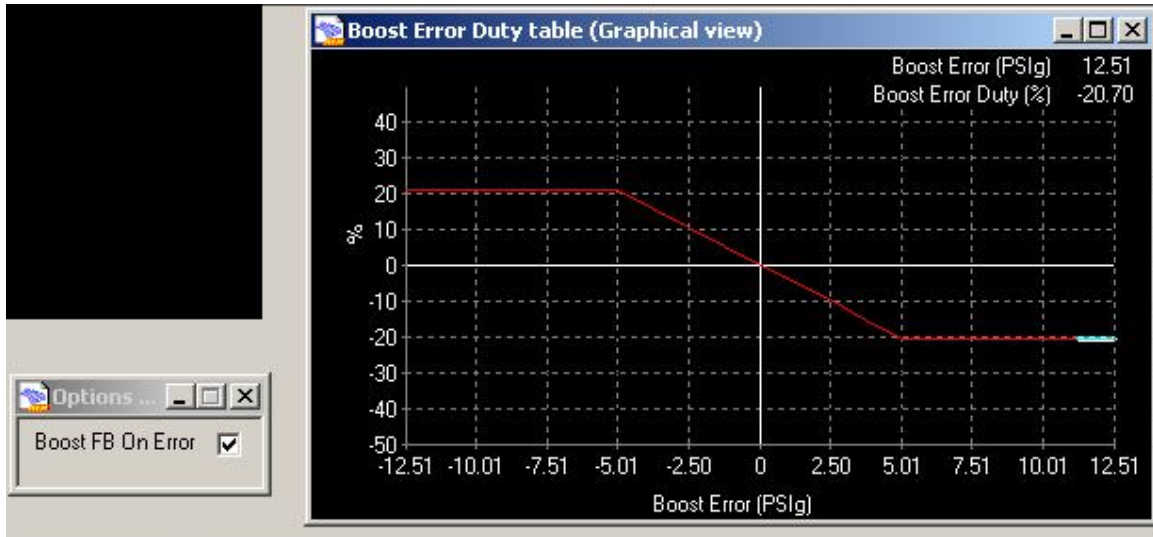

Fig. 8 - Wastegate Error Feedback Controls
21. For additional accuracy, you can enable **Boost FB On Error**, which activates the **WG Error Duty Map** feedback mechanism. (Fig. 8) NOTE – I have yet to get this to work – look for an update in the future on setting this correctly.